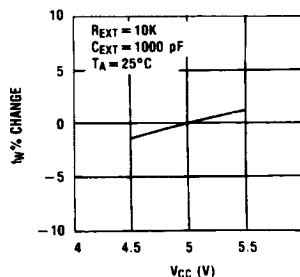
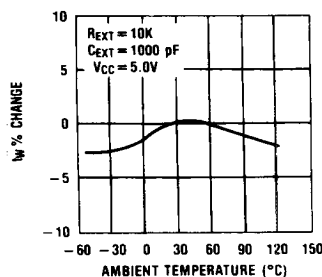

FIGURE 5
FIGURE 6
7. Output pulse width variation versus V_{CC} and operation temperatures: Figure 5 depicts the relationship between pulse width variation versus V_{CC} ; and Figure 6 depicts pulse width variation versus temperatures.